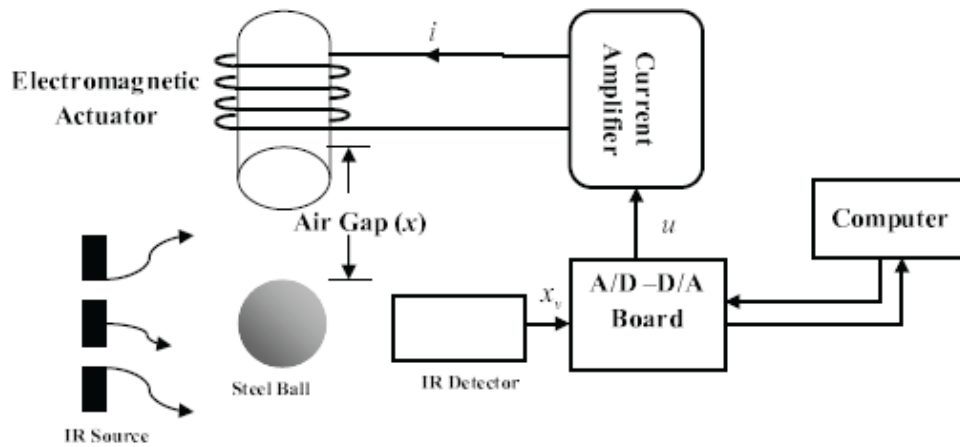

Fig. 1: Magnetic ball suspension system
3. (a) The schematic of a laboratory based magnetic ball suspension system is shown in Fig. 1. Here, the objective is to suspend the steel ball at equilibrium position x_0 . Let the corresponding equilibrium current be i_0 . The electromagnetic force exerted by the electromagnet is given by $k(i^2/x^2)$, where k is a constant depending on coil parameters. The system is equipped with an inner control loop providing a current proportional to the control voltage that is generated for control purpose, i.e., $i = k_1 u$. Assuming sensor's gain to be k_2 , mass of the ball to be m and acceleration